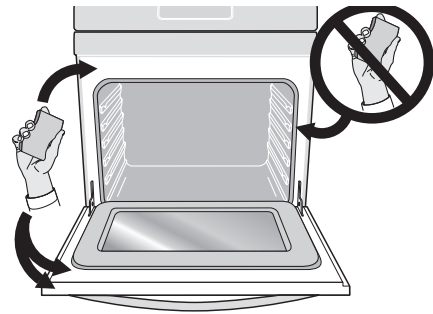

Figure 19: Clean around gasket being careful to not rub the gasket.
9. Wipe oven cavity and bottom. Do not clean oven door gasket (Figure 19). Avoid leaning or resting on the oven door glass while cleaning cavity.